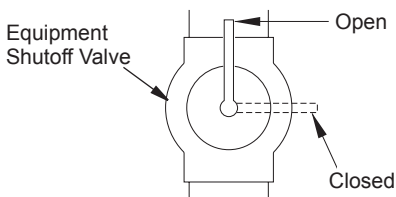

Figure 16 - Equipment Shutoff Valve
1. Close equipment shutoff valve (see Figure 16).
1. Open equipment shutoff valve (see Figure 16).
3. Close equipment shutoff valve (see Figure 16, page 14).